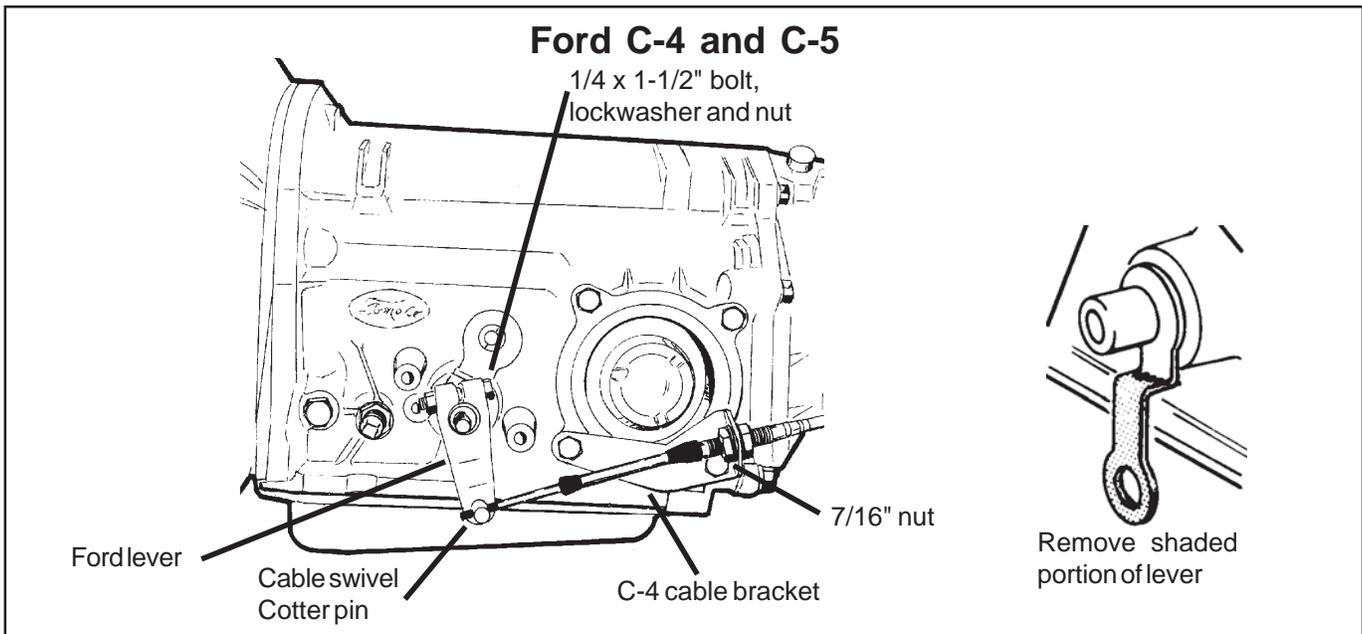

Figure 6
**STEP 16.** Install the **B&M** selector lever (See Figure 6 or 7). Note: The **B&M** lever must point downward for proper operation. If the stock shift lever on your transmission points down, you will have to remove the lower part of the stock arm by cutting it off to clear the **B&M** lever (See Figure 6). Install the **B&M** selector lever onto the shift shaft of the transmission. Align the selector lever so when it points straight down it travels equal arcs in both directions from the center, then tighten the 1/4"-20 x 1 1/2" pinch bolt and nut. The lever should travel smoothly from front to back with a positive click in each gear position. Make sure the O-ring is in position on the downshift shaft and install the downshift lever in position on the shaft. Install the lockwasher and the nut and tighten securely. The downshift lever must operate smoothly. Reconnect the downshift linkage.
**C-4, C-5:** Remove the two lower bolts from the rear servo cover. Install the cable bracket in position (See Figure 6). Install the two servo cover bolts as removed and tighten to 12-13 lb.ft. Do not overtighten as this can distort the servo cover.